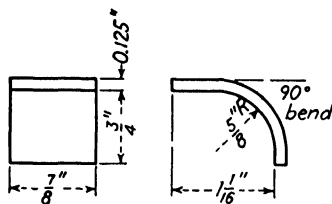

Fig. 252.
3. Find the bend allowance and over-all length of the fitting shown in Fig. 252. Draw a full-scale flat pattern accurate to the nearest 64th.